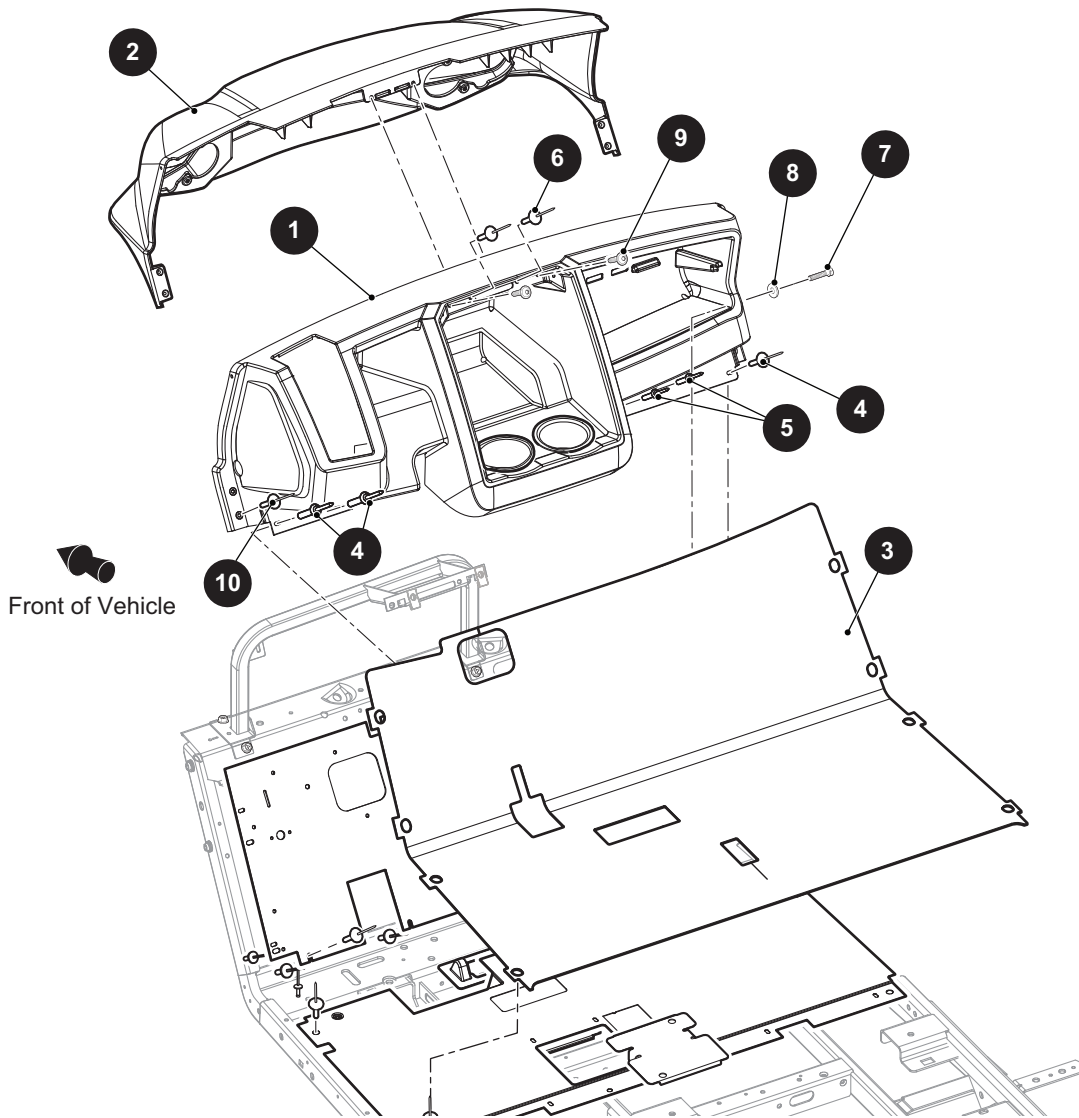

Figure 4 Front Body Components
Pull up the front edge of the floor mat (3) to expose the rivets (4) that secure the instrument panel (1) to the vehicle frame(Figure 4). Drill out the three rivets (4) that secure the instrument panel to the frame. Drill out the two rivets (6) that secure the instrument panel to the cowl (2). Drill out the two rivets (5) and (10) that attach the instru-